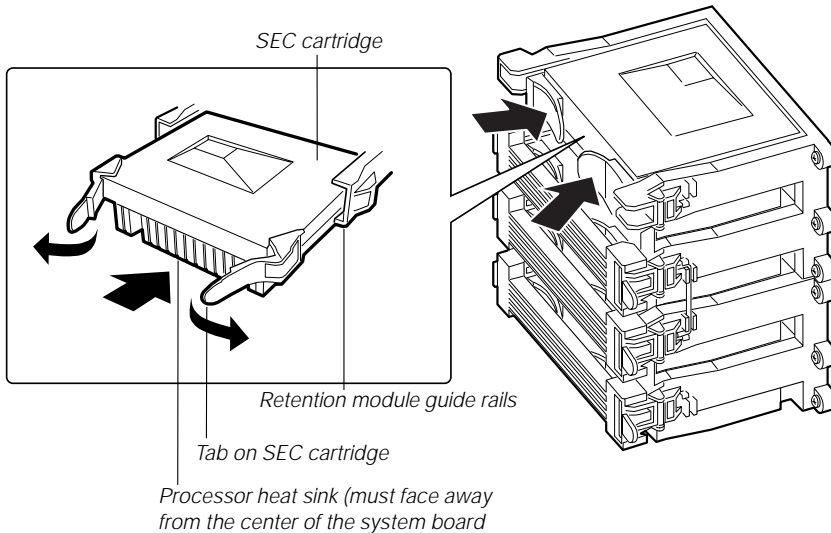

Figure 7: Installing a Processor
12. With the tabs at the top of the SEC cartridge completely open (pulled outward, away from the center of the cartridge—C in Figure 7), slide the cartridge into the guide rails of the retention module (B in Figure 7). When done properly, the triangular ends of the tabs (with two round pegs on each) fit into the entrance to the guide rails.
13. When the cartridge meets resistance, push the two tabs toward each other (E in Figure 7) until the processor is fully seated.